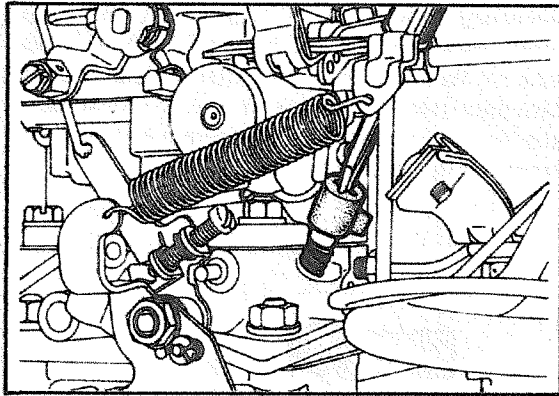

Fig. 7 Idle Adjusting Screw Adjustment
2. Subsequently, after warming up the engine sufficiently, adjust the engine speed to 600 rpm by means of the throttle adjusting screw and tighten the screw, while watching the tachometer, to a position in which the engine speed just begins to drop. From this position, back off a $1/8$ turn. (Fig. 7)